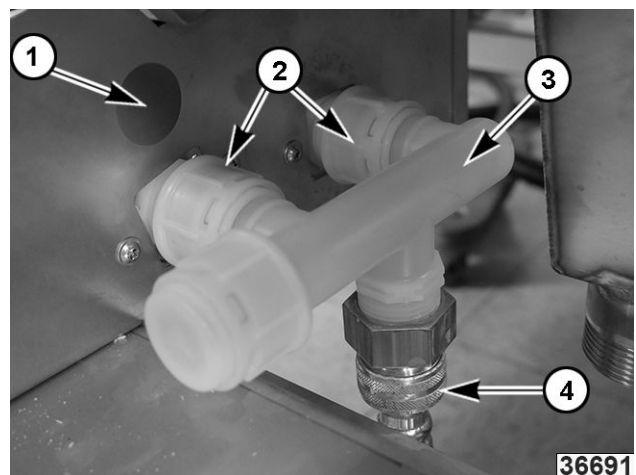

Fig. 29
NOTE: Manifold is used when cold water only is supplied. Blue dot, cold water only side. (1, Fig. 29).
5. Remove supply water hose (4, Fig. 29).
6. Loosen couplings (2, Fig. 29) and remove manifold (3, Fig. 29) from unit.